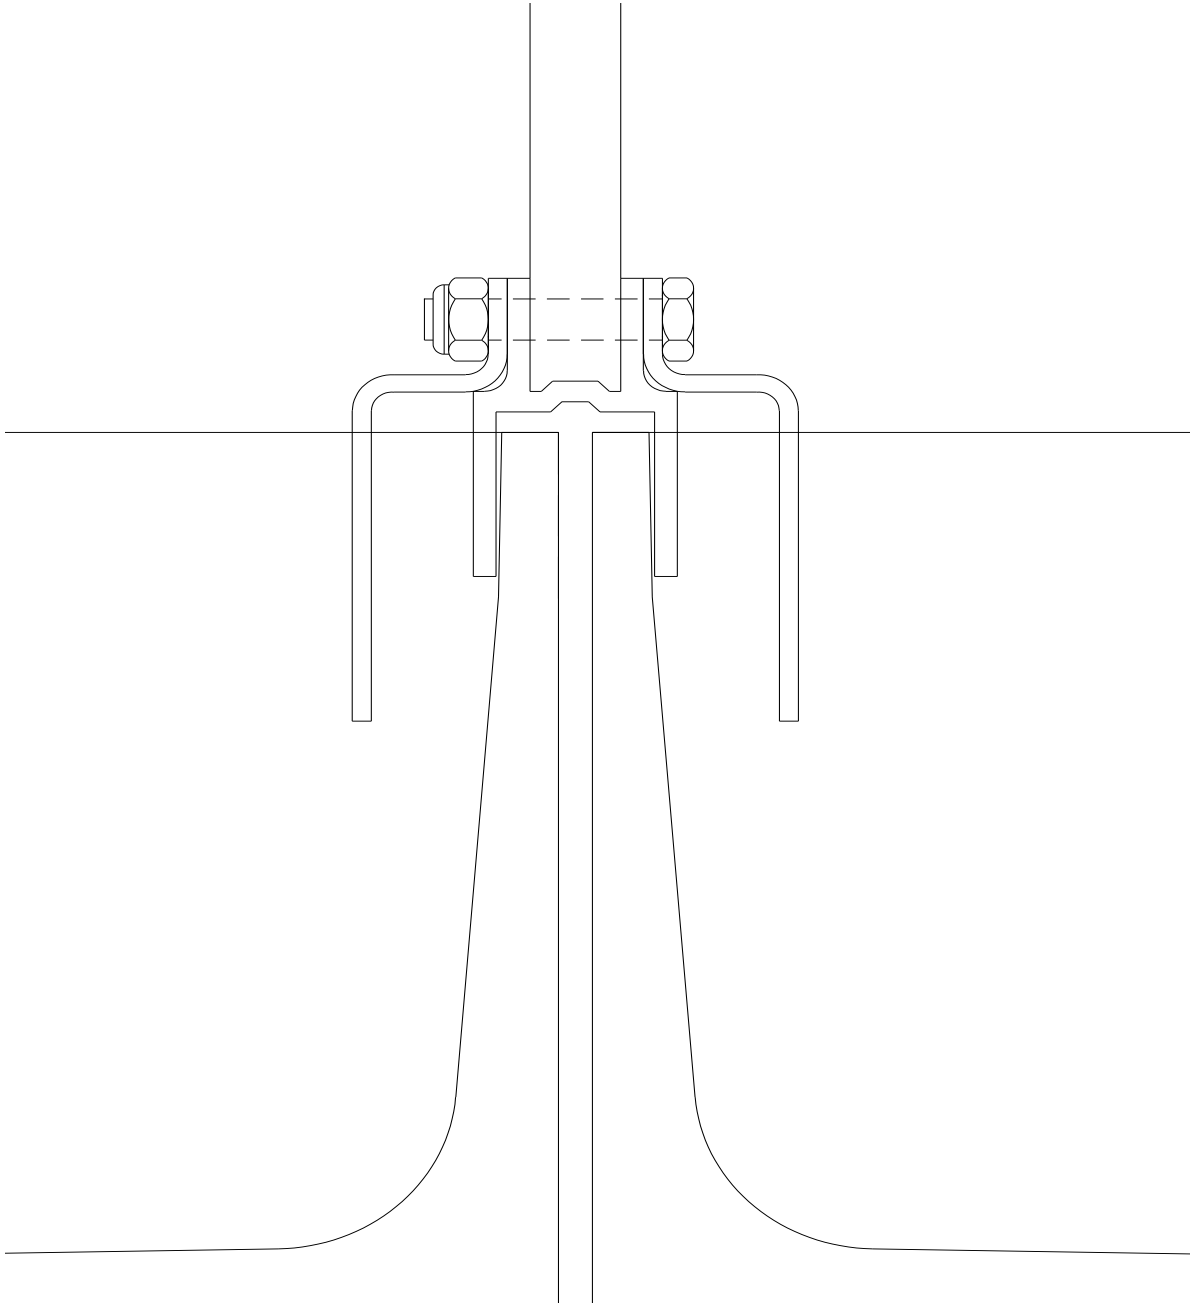

Figure 13
3. With the bracket held in position place a $\frac{1}{4}$ -20 x 1- $\frac{1}{4}$ " hex head screw in each hole and through the division panel. On the opposite side of the panel install the appropriate bracket (except on end runs where there is none) and secure in place with $\frac{1}{4}$ -20 Nyloc nuts. See figure 13.